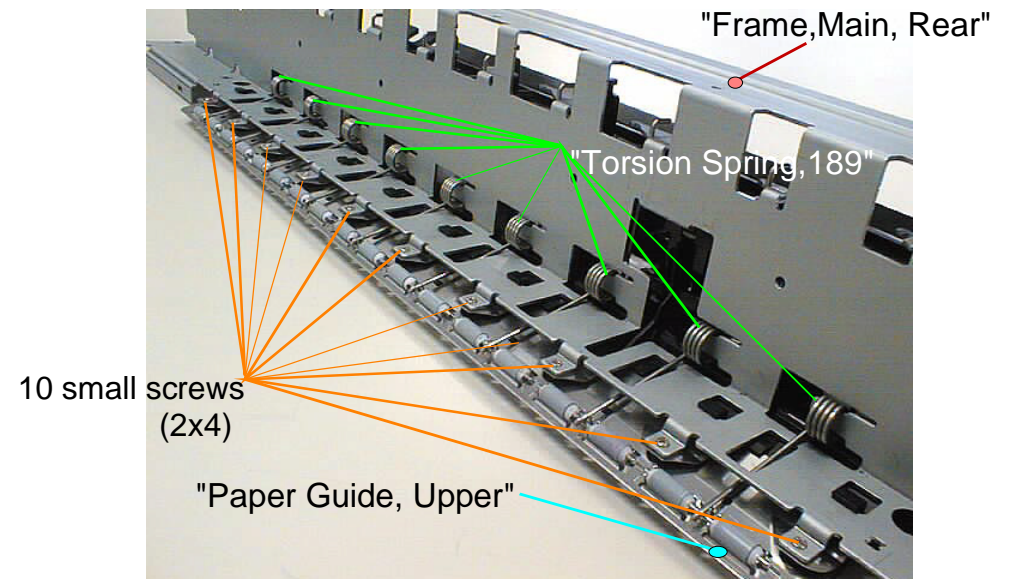

Figure 4-64. Separating "Frame, Main, Rear" and "Paper Guide, Upper"
3. Remove 10 small screws on the "Frame, Main, Rear" and 9 "Torsion Spring,189", and separate "Frame, Main, Rear" and "Paper Guide, Upper". (Refer to Figure4-64)